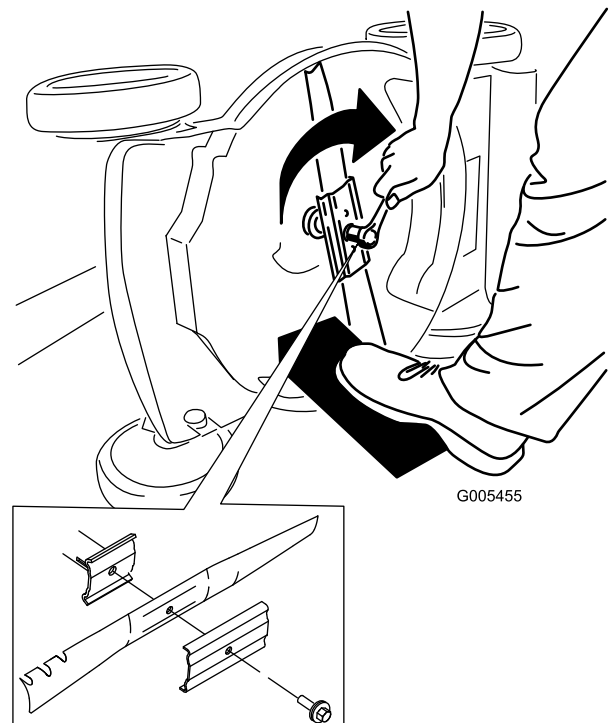

**Figure 29**
3. Use a block of wood to hold the blade steady (Figure 29).
4. Remove the blade, saving all mounting hardware (Figure 29).